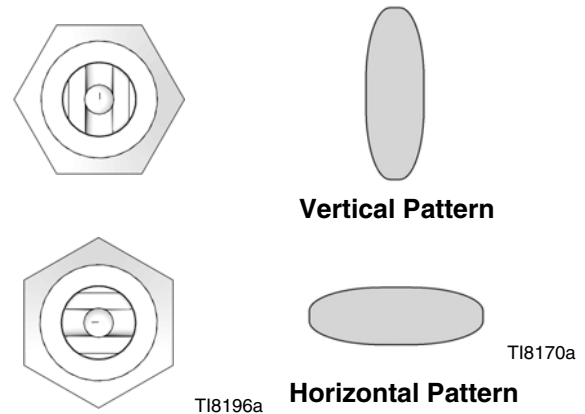

FIG. 8: Spray Pattern
Follow the Service Notes in Figs. 8 and 9 when reassembling the gun.
2. Unscrew the four screws (14) and remove the gun from the manifold.
3. Unscrew the tip retainer nut (7). Remove the spray tip (9) and gasket (8). See Figs. 8 and 9.
4. Remove the cap (18) from the piston housing (1). Remove the springs (20 and 19).
5. Using the supplied wrench (34), loosen the fluid needle setscrew (16). Remove the needle stop (17).